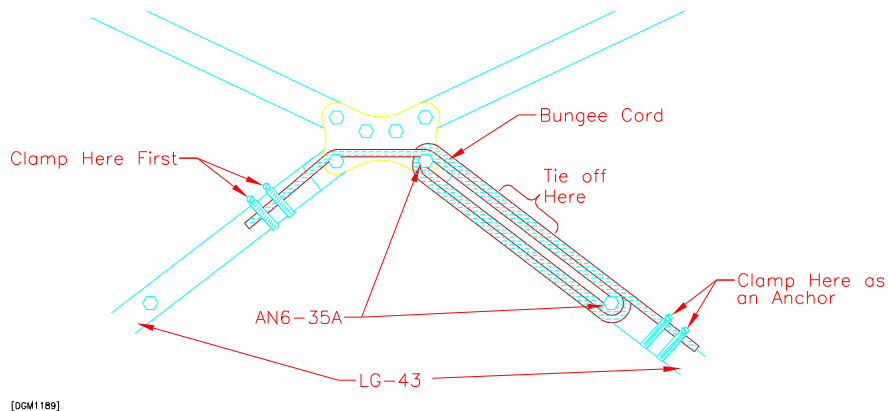

Figure 15.5.1
- 3) Begin by clamping one end of the cord to LG-43. Make one complete wrap around the two bolts and pull as tight as possible. Repeat for a total of 5 wraps. See Figure 15.5.1 for details.